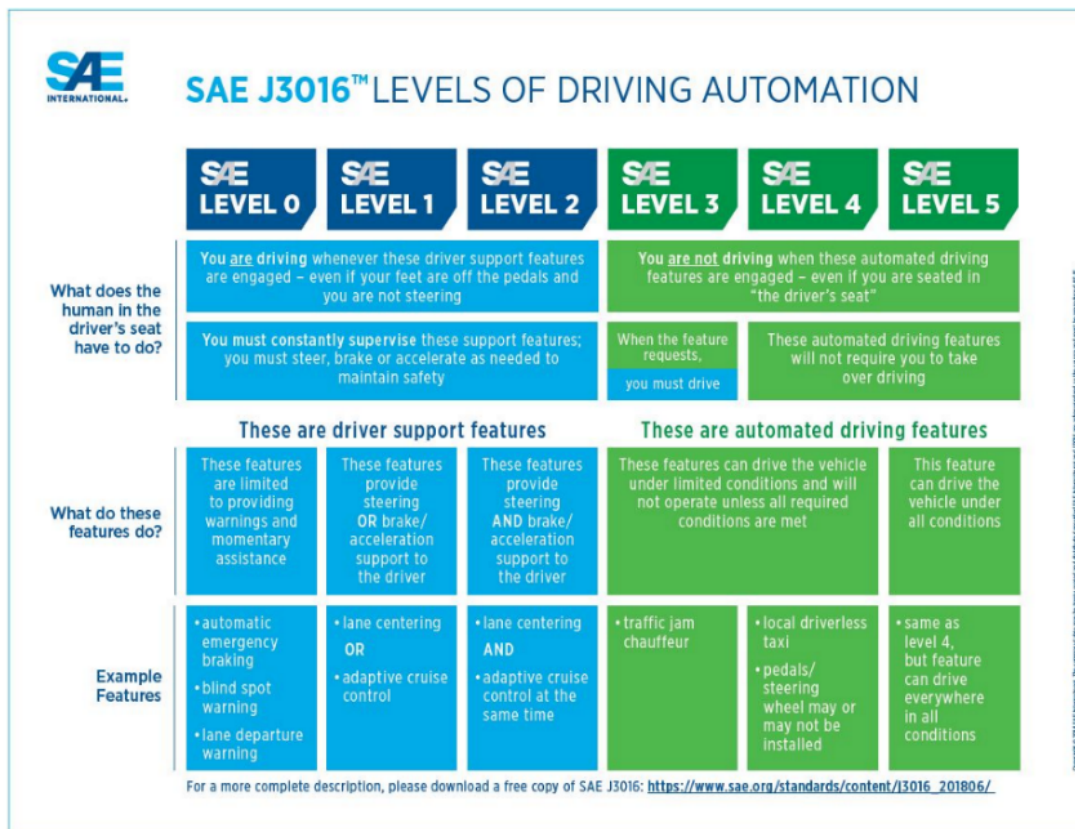

Figure 3: Society of Automotive Engineers Levels of Driving Automation chart. (Courtesy of SAE).
Additionally, SAE created the J3161 standard that describes a reference system architecture based on C-V2X technology, in particular, using 3GPP Release 14 and Release 15 PC5. SAE International developed a chart (figure 3) to clarify its “Levels of Driving Automation” that defines six planes, from SAE Level Zero (no automation) to SAE Level 5 (full vehicle autonomy). Representatives from traditional automotive industry segments, including insurance companies, the American Automobile Association, and the Transportation Research Board, provided input for the chart. It serves as the industry’s most-cited reference for automated-vehicle (AV) capabilities.